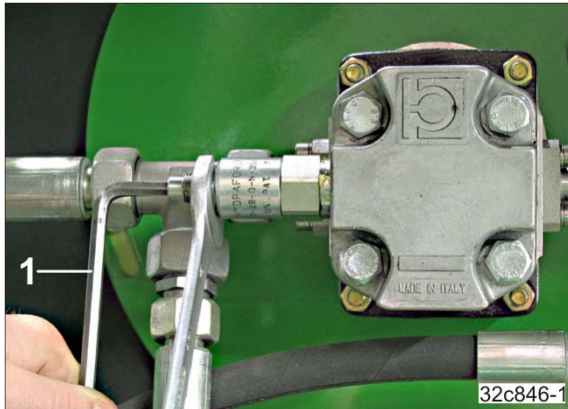

Fig. 161
1. Loosen the lock nut (Fig. 161).
- 2.1. Turn the screw with the hexagon socket wrench (Fig. 161/1) accordingly.
2. Use the hexagon socket wrench (Fig. 161/1) to set the nominal blower fan speed on the pressure relief valve. Do not exceed the maximum blower fan speed of 4000 rpm.